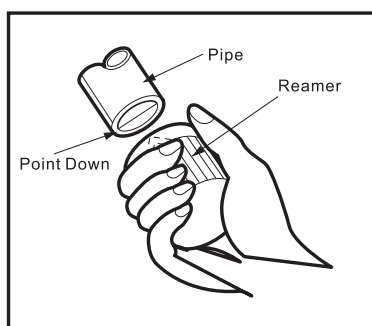

Fig. 5
- 3) Remove burrs on the cutting edges. Keep the pipe outlet down to avoid the metal powder into the pipe(Fig. 5).